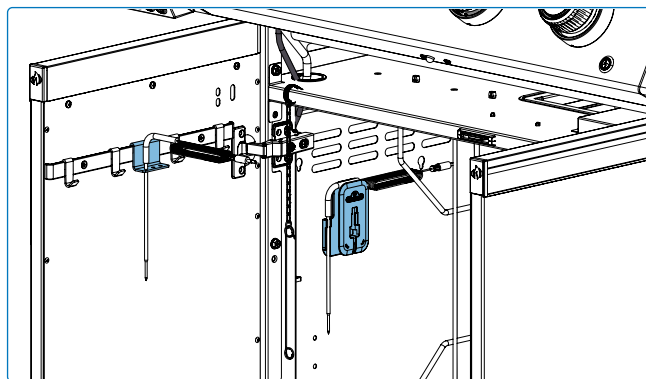

Fig. 10
- Store the rotisserie components on the designated clips inside the cart cabinet. Make sure to wind the rotisserie motor cord. Attach the spit rod on the back of the grill when not in use. This keeps them secure, protected from weather exposure, and easy to access for your next cook. Always ensure the parts are clean and dry before storing to prevent corrosion (**Fig. 10&11**).